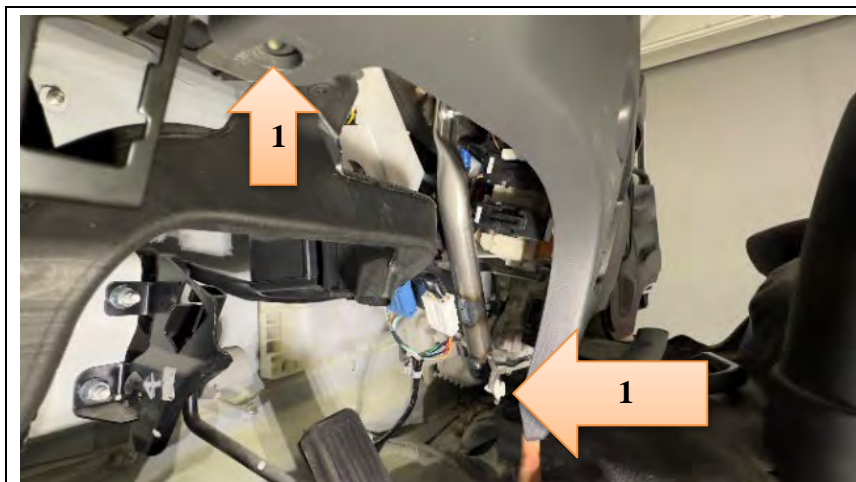

Figure 52
56. Remove the two (2) clips shown in Figure 52 from the instrument panel.